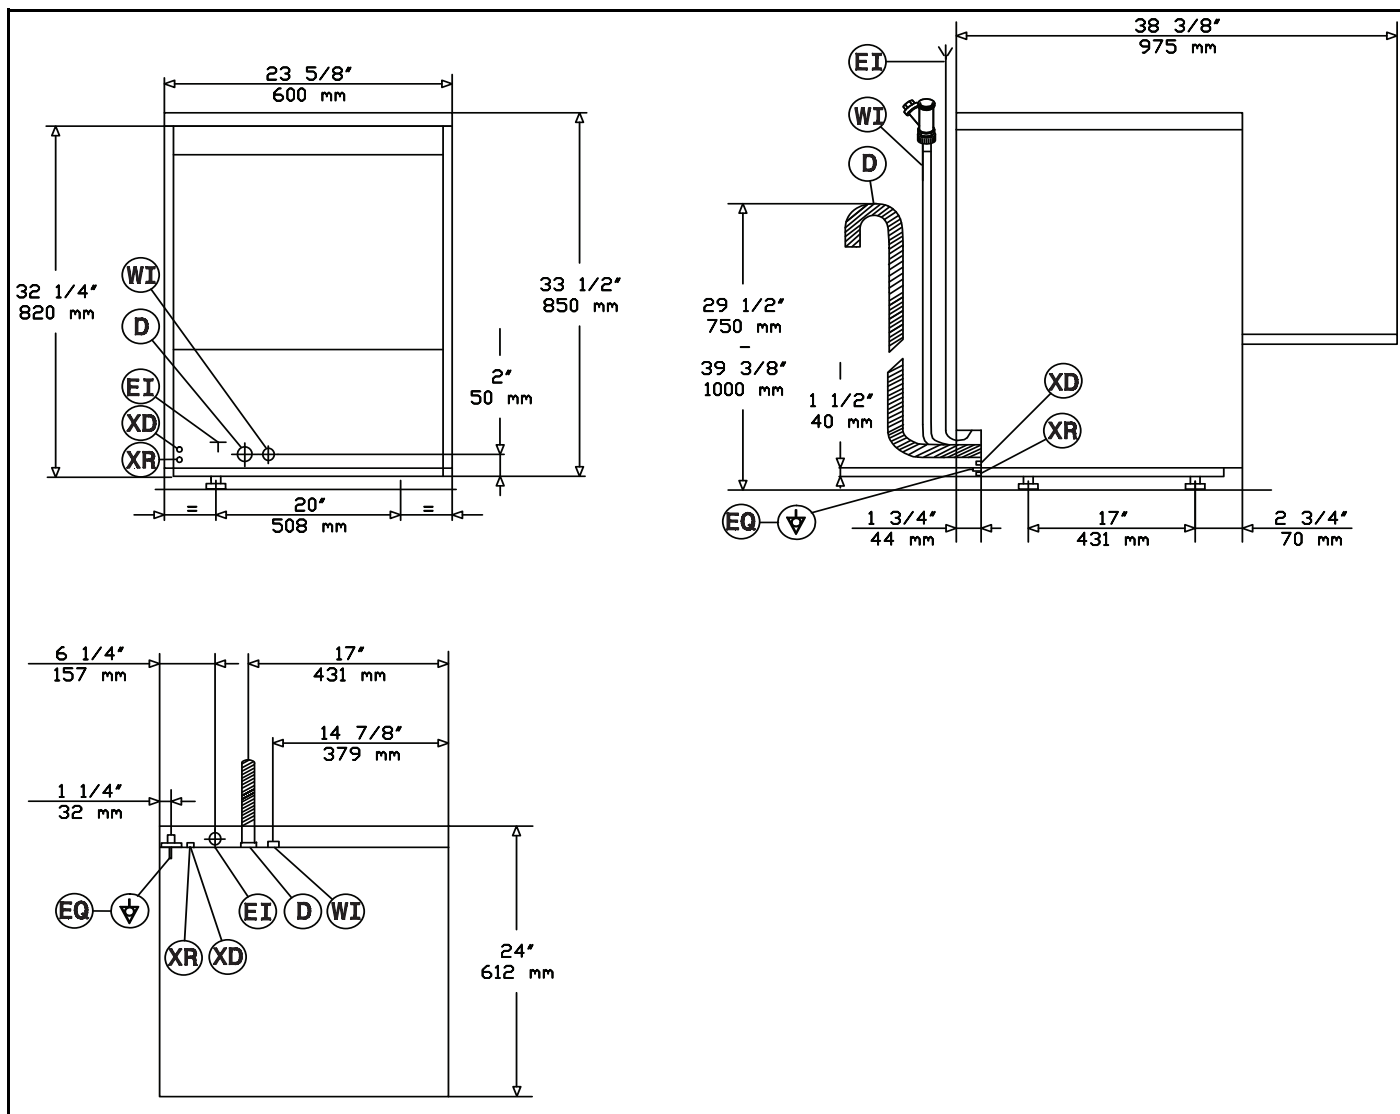
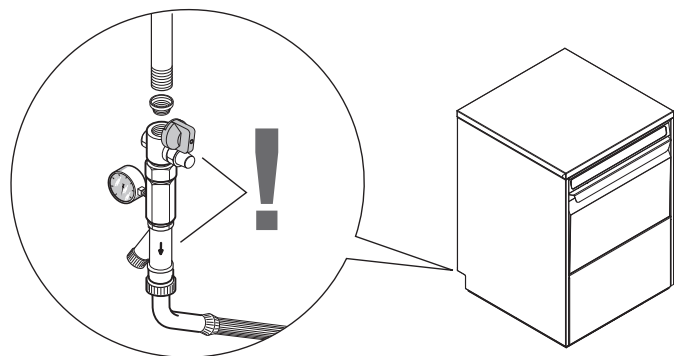

Figure 4
Figure 6
Legend Figure 4
- Connect the appliance water supply pipe "A" (Figure 4) (keeping with local plumbing codes) to the incoming water supply. Install a shutoff valve, Y-Strainer, and a pressure gauge between the appliance and the incoming water supply of the unit (Figure 6).
- The appliance requires a ground connection to the unit ground screw located at the rear of the unit marked "Q" (Figure 4) in the manual and marked with the symbol "⏏" on the unit. The ground wire must have a cross section of AWG 8/8.35 mm². Do not use the wiring conduit or other piping for ground connections. If necessary, have the electrician supply the ground wire.